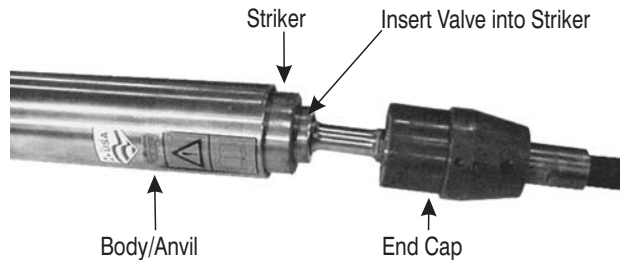
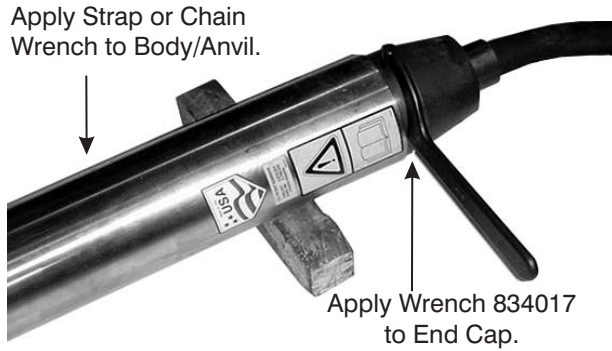

Figure 11-27. Insert Valve into Striker.
Figure 11-28. Secure End Cap to Body/Anvil.
- 4. With the exception of the End Cap (9) and Whip Hose (14), lightly coat the tail assembly components with hydraulic fluid.
- 5. Insert the Valve (6) into the Striker (2) and thread the End Cap (9) into the Body/Anvil (1). See Figure 11-27.
- 6. Hand tighten the End Cap (9) to the Body/Anvil (1).
- 7. Place the Hole-Hog on a level surface. Holding the Body/Anvil (1) with a strap wrench, use wrench P/N 834017 to tighten the End Cap (9), as shown in Figure 11-28.